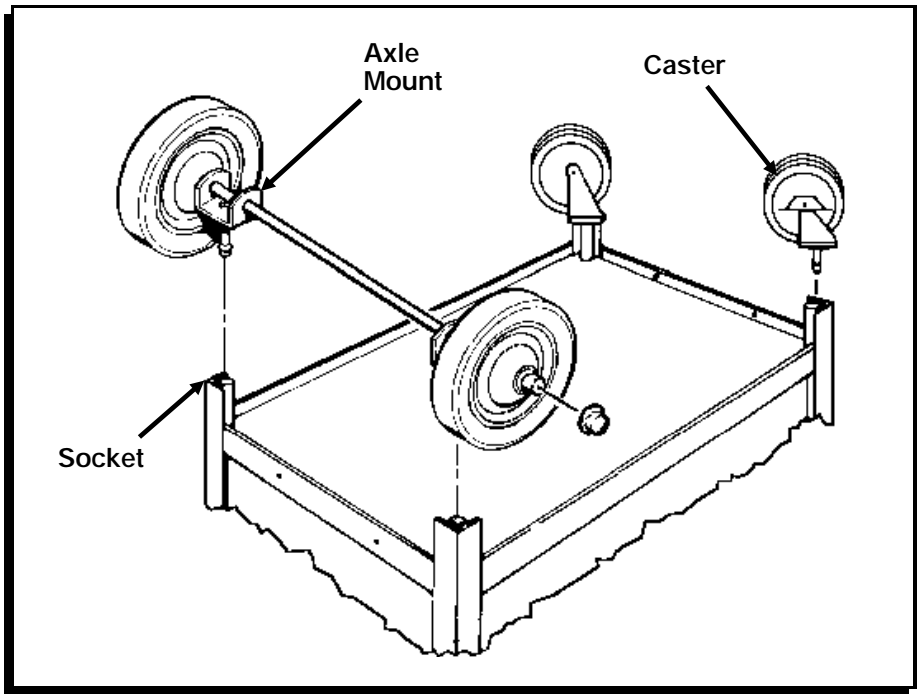

Figure 2
5. At the rear of the Station (end closest to the side where the cabinet door opens), push the two axle mounts firmly into the sockets of the rear legs. (Figure 2.) Hold onto the uncapped end of the axle so the axle assembly stays together.
8. Push the two casters into the sockets in the bottom of the front legs. (Figure 2.)